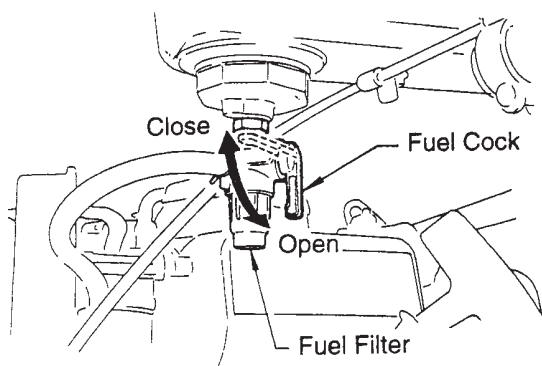

Figure 6. Fuel Cock
1. Open the fuel shut-off valve by moving the fuel cock lever to the open position (Figure 6) then set the engine **START/STOP** switch to the **START** position.